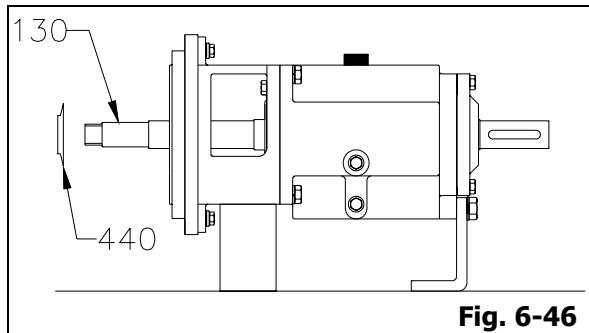

Fig. 6-46
- Remove deflector (440) from shaft (130) (Fig. 6-46).